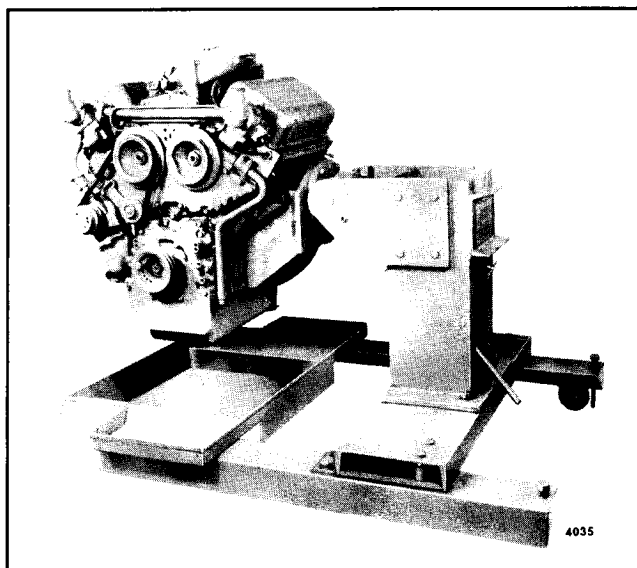

Fig. 10 - Engine Mounted on Overhaul Stand
The hydraulically operated overhaul stand (Fig. 10) provides a convenient support when stripping a cylinder block. The engine is mounted in an upright position. It may then be tipped on its side, rotated in either direction 90° or 180° where it is locked in place and then, if desired, tipped back with either end or the oil pan side up.
18. Place the side of the cylinder block against the adaptor plate on the overhaul stand (Fig. 10). Use adaptor plate J 7622-01 (In-line engine), J 8683 (6V-53 engine) or J 21966 (8V-53 engine) with overhaul stand J 29109.